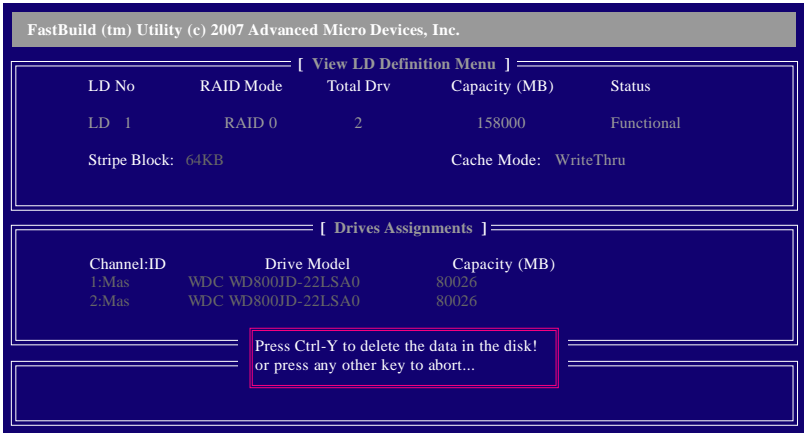

Figure 9
2. The View LD Definition Menu will appear (as shown in Figure 9) showing which drives are assigned to this array. Press <Ctrl>+<Y> if you are sure to delete the array or other keys to abort.